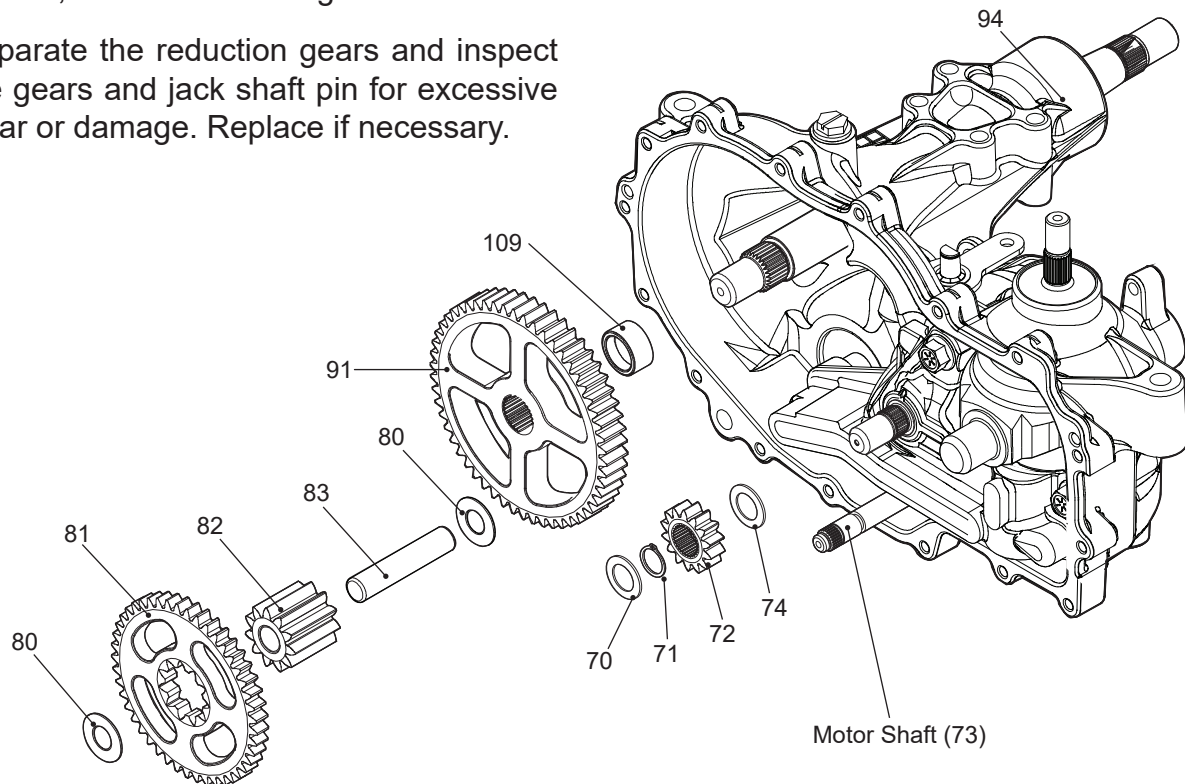

Figure 21, Bull, Reduction and Pinion Gear
Refer to Figure 21
1. **Mark the orientation of the charge pump cover relative to the main housing, prior to removal. Refer to figure 21.**
2. Remove the hex head screws (134), charge pump cover (133), gerotor assembly (131), and the O-ring (132). Remove the connecting tubes (130) and lip seal (157) at this point – *only if the center section will be removed*. A pick type tool can be used to remove the connection tubes and seal.